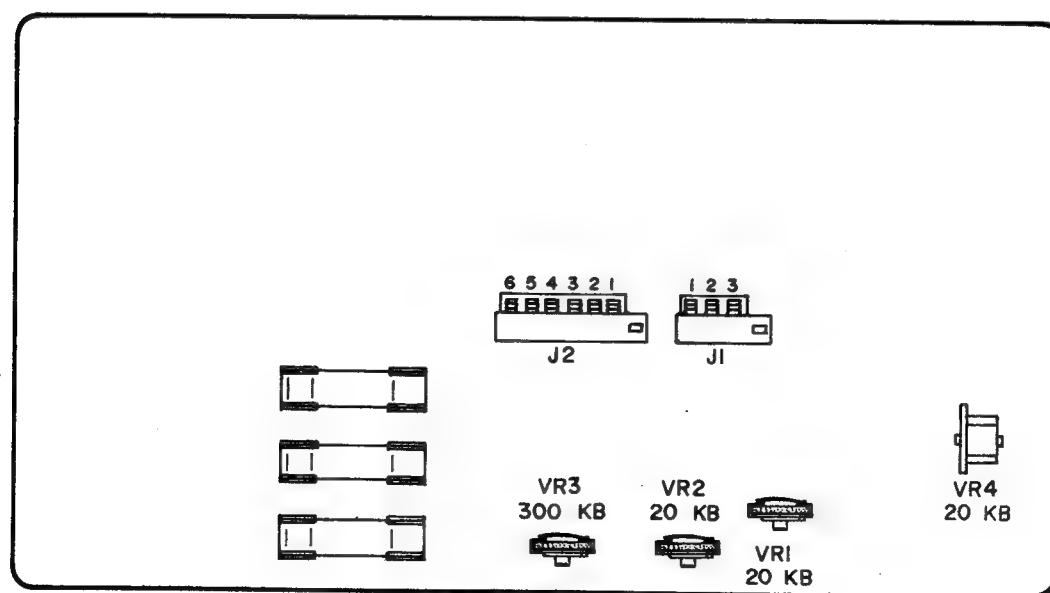

Fig. 23 Motor Drive P.C Board
3. OFF-SET VOLTAGE ADJUSTMENT AND TORQUE DIFFERENCE ADJUSTMENT (Refer to Fig. 23)